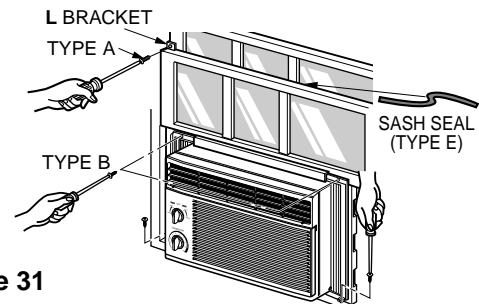

Figure 31
Extend the guide panels (TYPE F) to fill the window opening using 4 screws (TYPE B) to secure them, as shown in Fig. 31.
- a. Cut the sash seal (TYPE E) to the window width. Stuff the sash seal between the glass and the window to prevent air and insects from getting into the room, as shown in Fig. 31.
- b. Fasten the L bracket using a screw (TYPE A), as shown in Fig. 31.